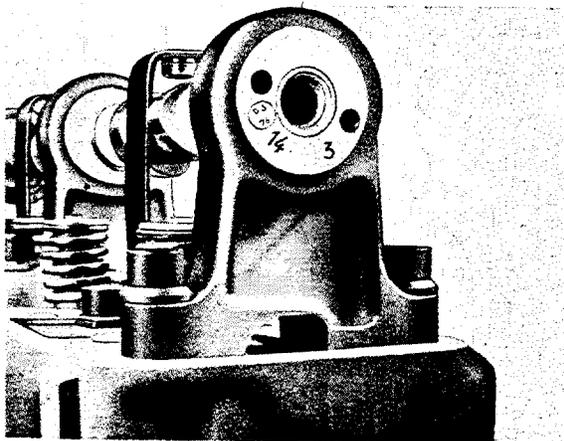

Fig. M 30/01
**Note:** Type 220a is today provided with a camshaft that has a modified intake valve cam. This camshaft has the number 14/1 punched into the end face of the rear bearing journal. The formerly used camshaft bears the mark 14 (Fig. M 30/1). Before attempting to check the valve settings determine whether a camshaft with number 14 or 14/1 is installed in the engine.